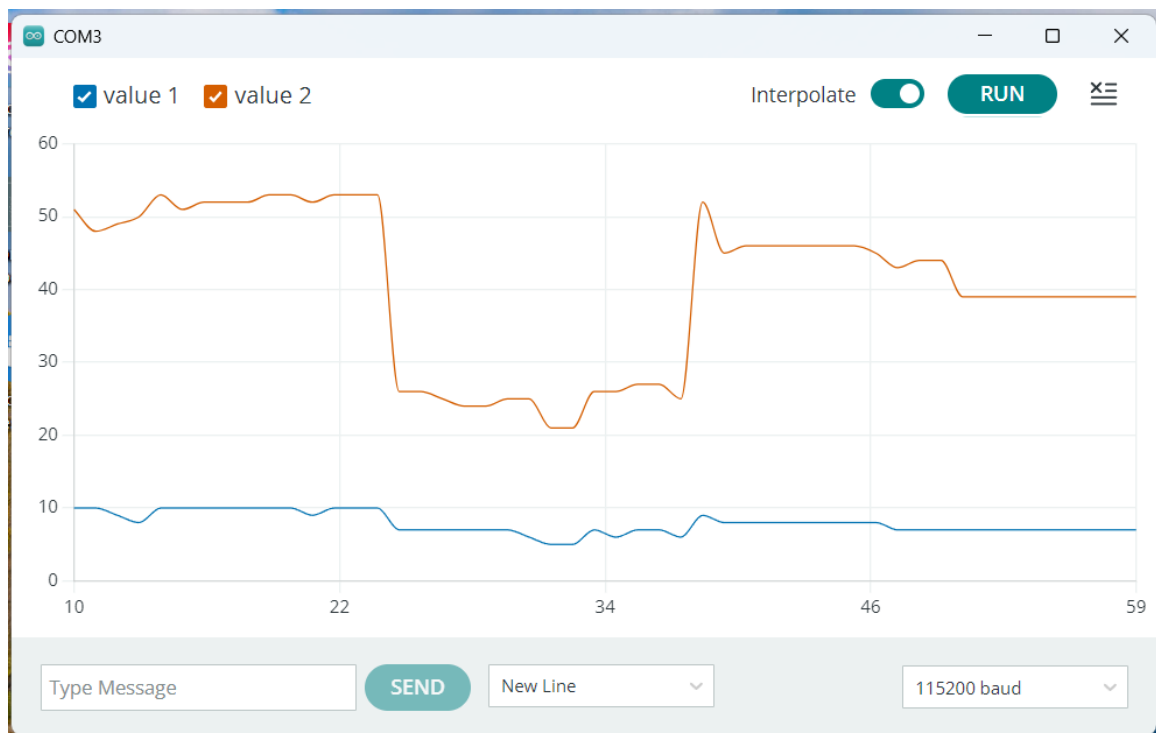

Figure 2B – Serial Plotter window showing real-time light intensities plots.
In the Serial Plotter window, you should see two line plots displayed in real-time, as shown in Figure 2B, representing the infrared (IR) and full spectrum light intensity readings from the sensor. Each light intensity is visualized with a distinct line color, making it easy to observe and compare changes in IR and full spectrum light levels over time. This simultaneous visualization of multiple variables allows for more intuitive data interpretation and is especially beneficial for applications that require continuous monitoring and real-time analysis.